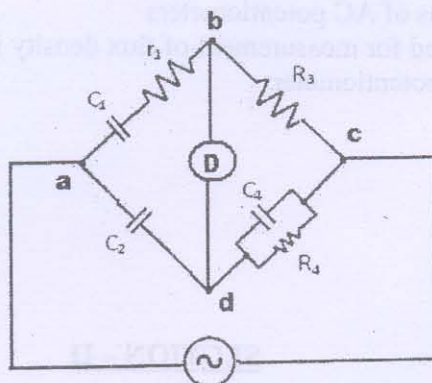

Fig. 1
- C. A sheet of Bakelite 4.5 mm thick is tested at 50 Hz between electrodes 0.12m in diameter. The Schering bridge shown in Fig. 1 employs a standard air capacitor C_2 of 106 pF capacitance, a non-reactive resistance R_4 of $1000/\pi \Omega$ in parallel with a variable capacitor C_4 , and a non-reactive variable resistance R_3 . Balance is obtained with $C_4 = 0.5\mu F$ and $R_3 = 260\Omega$. Calculate capacitance, power factor and relative permittivity of sheet. 4